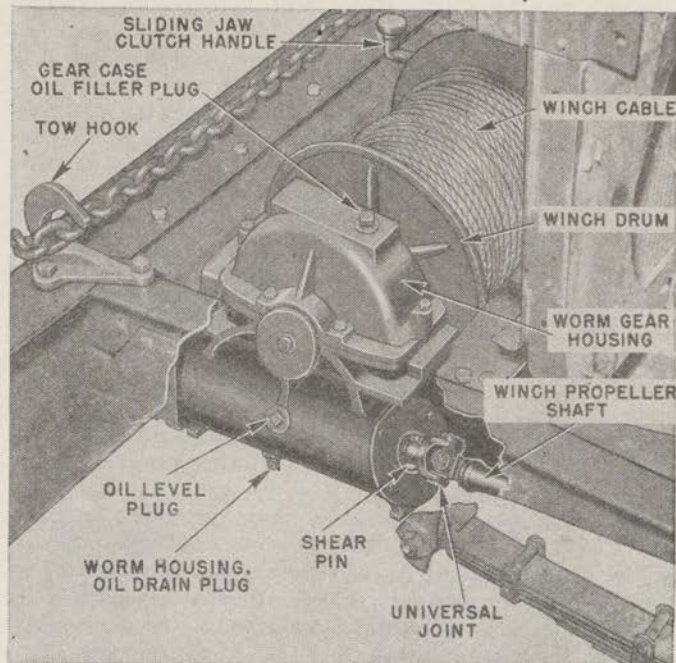
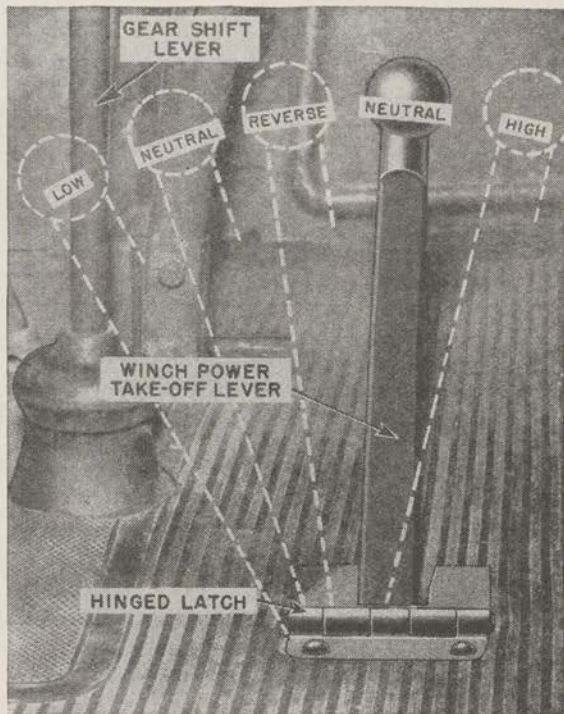

FIGURE 40.—A front-mounted winch.
FIGURE 41.—Winch control lever in cab—consult winch and power take-off name plate in your own vehicle for proper speed positions.
All newer front-mounted winches are provided with shear pins (fig. 40) as a precaution against overloading the winch or snapping the cable. The shear pin is located in the yoke of the universal joint that drives the winch worm-gear shaft. When the winch is overloaded, the shear pin is supposed to break instead of the cable. Never use makeshift pins of unknown strength to replace broken shear pins; if the pin is too strong, the cable may snap and injure somebody. Use only the manufacturer's soft metal pins, made to fit the hole without forcing.
c. Tips on winch operation.—(1) Always depress the clutch pedal of the vehicle (disengage the clutch) before changing gears in the winch power-take-off. Figure 41 shows the positions of the power take-off lever for different winch speeds of one make of truck. *Always consult the winch and power take-off name plate in cab of your particular truck for the correct lever positions*, as these positions vary with different makes of trucks. When the winch is not being used, lock the lever in neutral position with the hinged latch on the floor board.
(2) Do not operate the winch with an engine speed exceeding 1,000 rpm (about $\frac{1}{4}$ throttle).
(3) Use the high speed of the winch for light loads and for reeling in the cable. Use the low speed for heavy loads. The winch can be stopped almost instantly by disengaging the vehicle clutch.
(4) Pay out the cable by disengaging the sliding-jaw clutch, controlled by a lever (fig. 40) and pulling out the cable by hand.